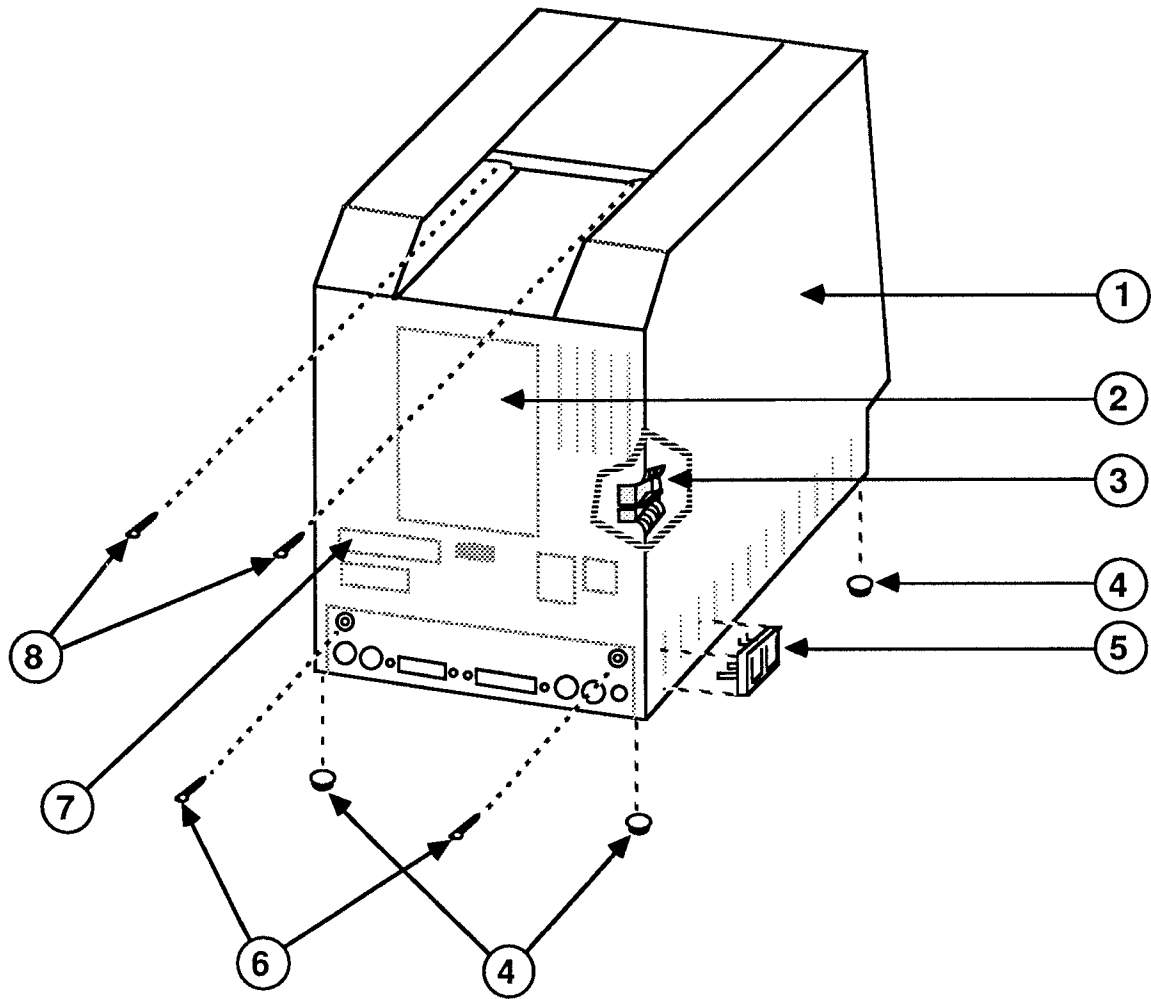

FIGURE 2
- IPL.5 External Rear Housing (Figure 2)
□ MACINTOSH SE – EXTERNAL REAR HOUSING (Figure 2)